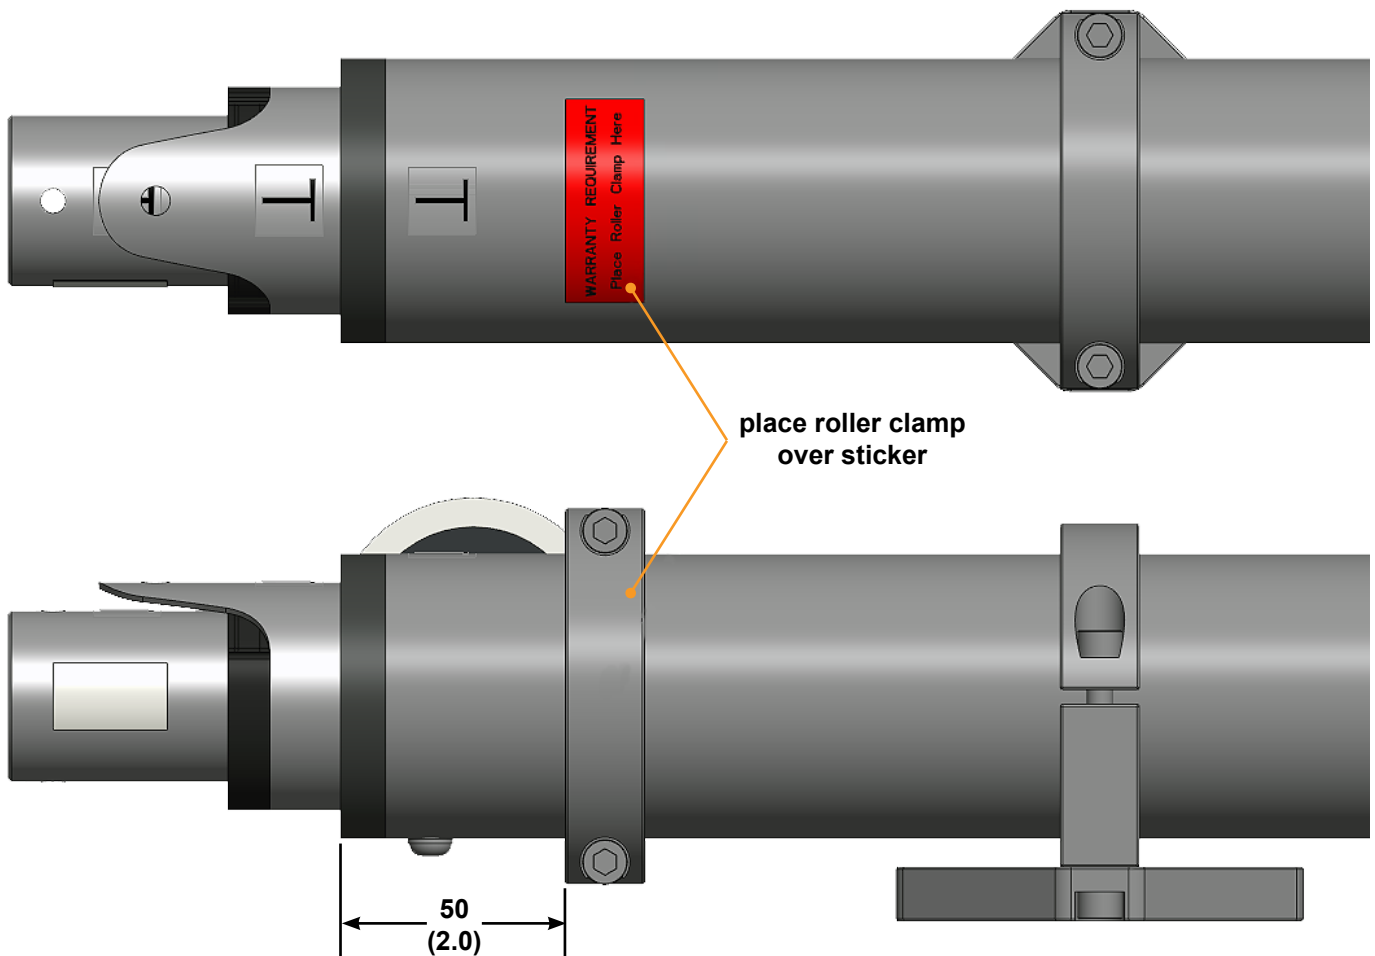

Fig.15
2. Make sure roller clamps are aligned over "Place Roller Clamp Here" stickers; 50mm (2") in from the end of the actuator main tube (Fig.15).